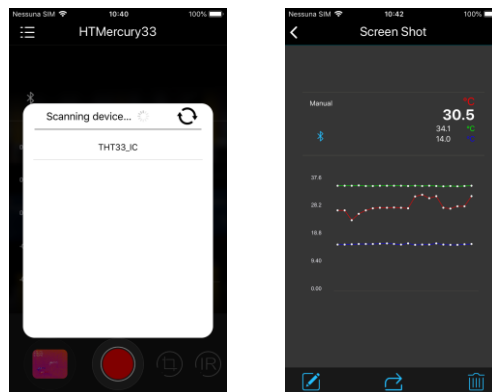

Fig. 20: Communication with the APP HTMercury
4. Search for the instrument in the APP (see Fig. 20 – left side).
5. Real-time display of temperatures (central spot, hottest spot, coldest spot) of the image is available on the mobile device (see Fig. 20 – right side) and it is possible to save the screens from the APP’s internal menus. It is also possible to save screens of thermographic images (see Fig.20) and insert items onto them for advanced analyses (see the Help on line of the APP for further details)